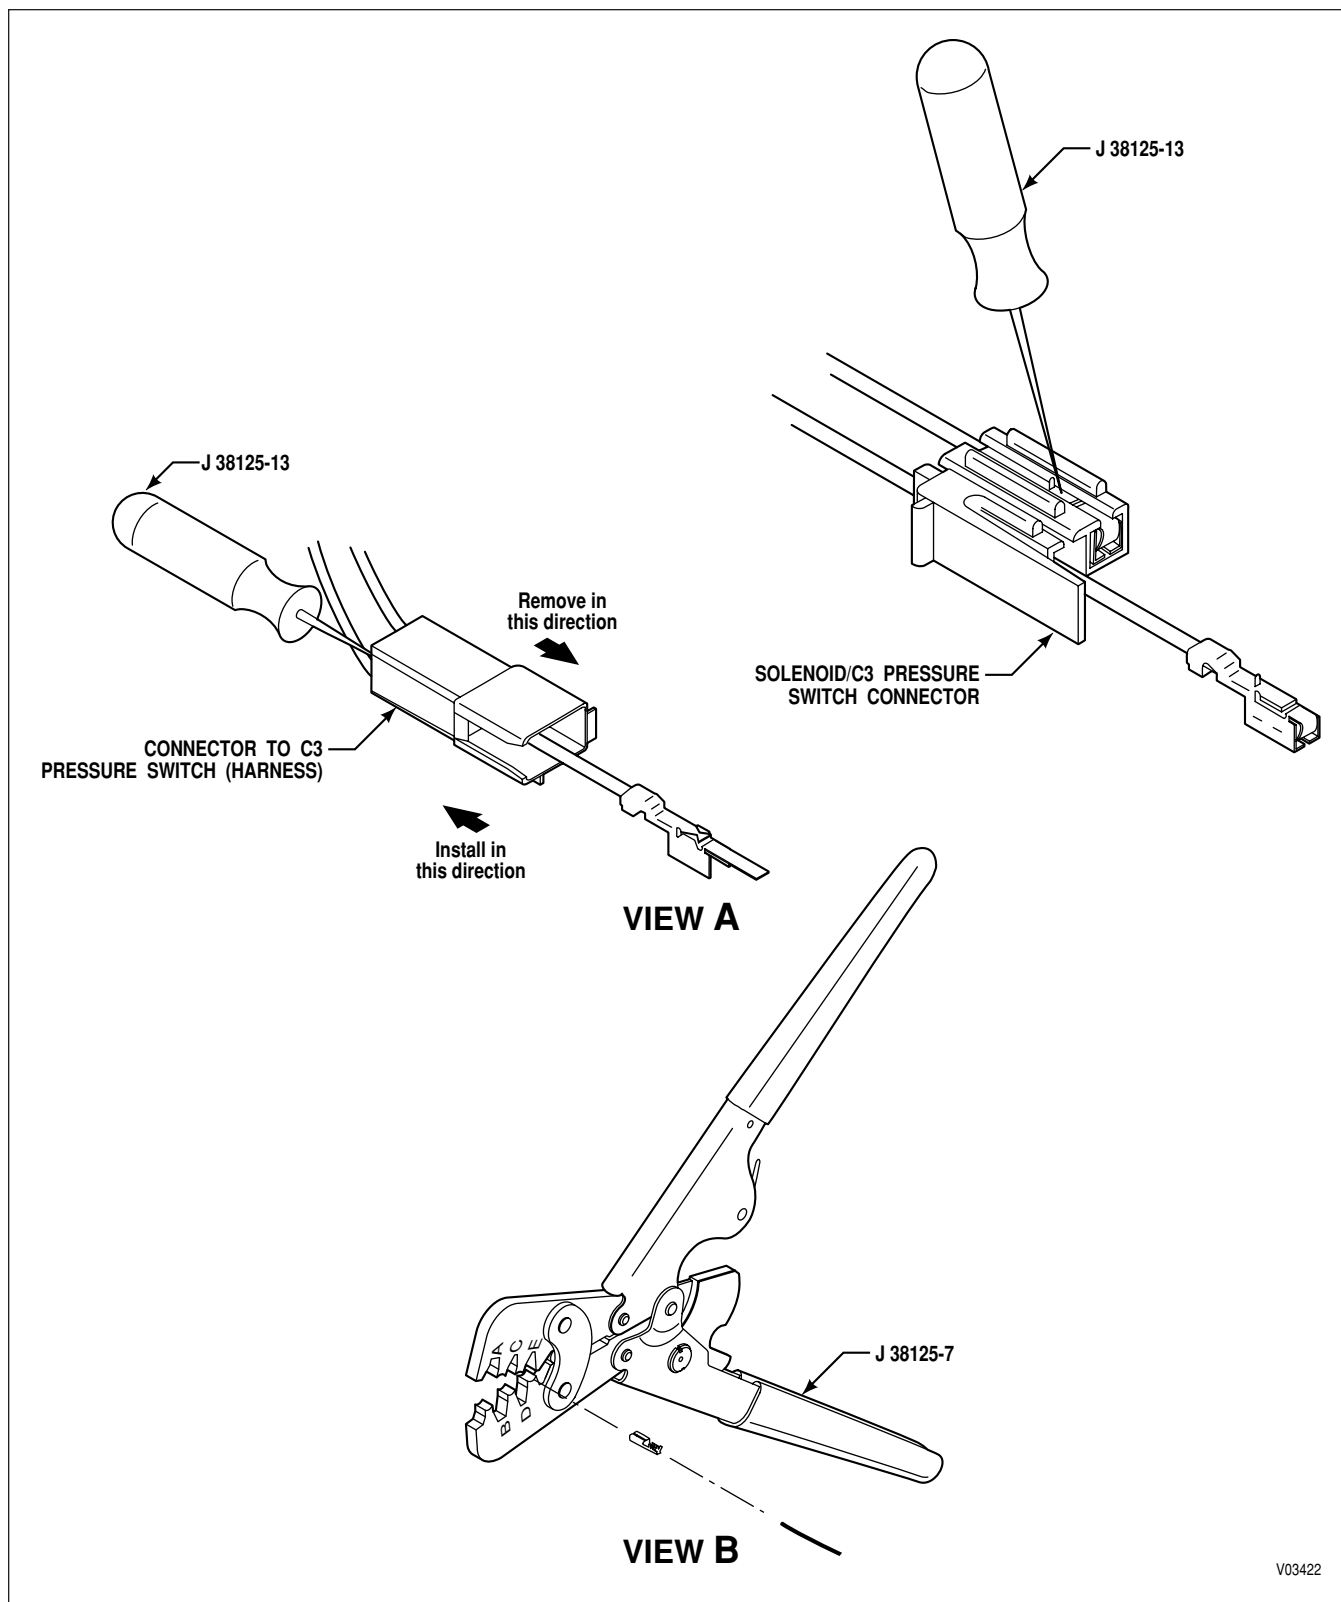

Figure E-5. Delphi-Packard Metri-Pack 280 Series Connectors—Pull-to-Seat
1. Depress locktab on terminal (accessible in slot of connector) and push terminal out front of connector (Figure E-5, View A).
2. Place core crimp portion of terminal on bed of anvil indicated and squeeze crimper enough to hold terminal from dropping (Figure E-5, View B).